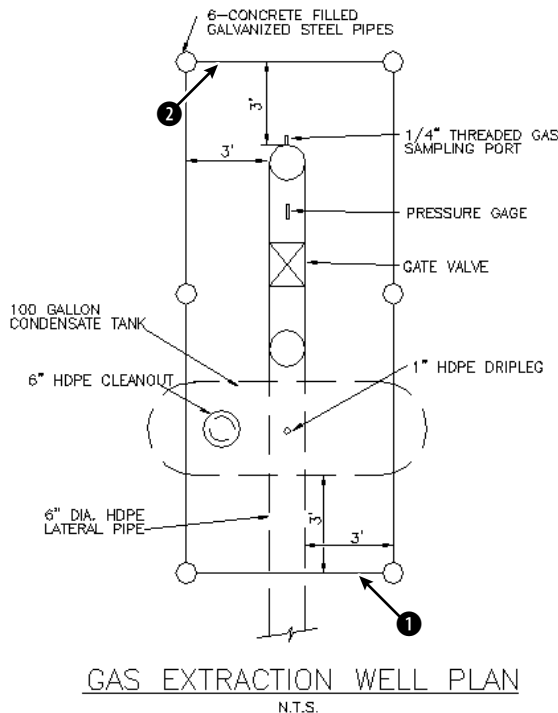

**Figure 9-3:** The gas extraction well schematic.
2. Save the file as `ab09-01.dwg` in your AutoCAD Bible folder. This drawing is a schematic of a gas extraction well, shown in Figure 9-3.
3. To erase the line at point ❶ of Figure 9-3, move the mouse until the pickbox at the intersection of the crosshairs is anywhere over the line. The line thickens and is dashed. Click the line. Now the line is dashed and displays grips.
6. At the `Select objects:` prompt, pick the line at point ❷ in Figure 9-3.